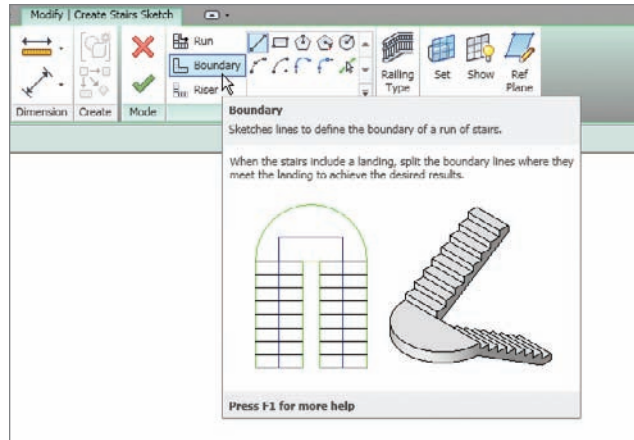

FIGURE 10.7 The Boundary button on the Draw panel
1. On the Modify | Create Stairs Sketch tab, click the Boundary button, as shown in Figure 10.7.